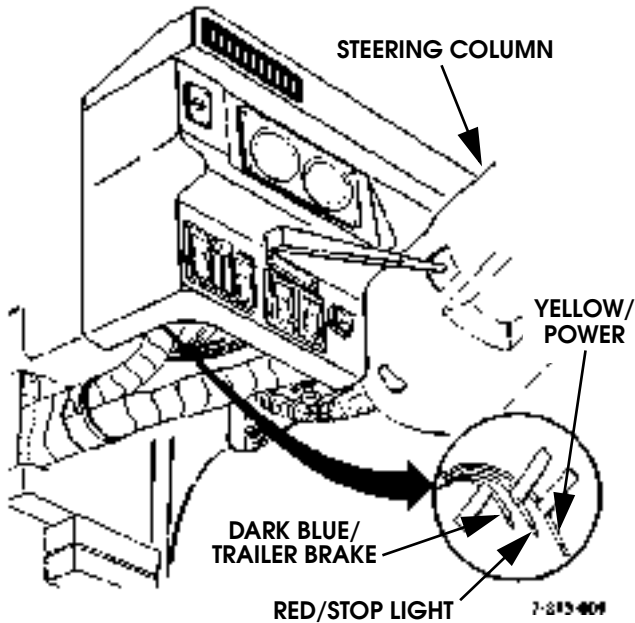

Figure 13-44: Trailer Brake Controller Wiring
1. Three shrink-wrapped wire leads can be found under the instrument panel (Figure 13-44), they are: